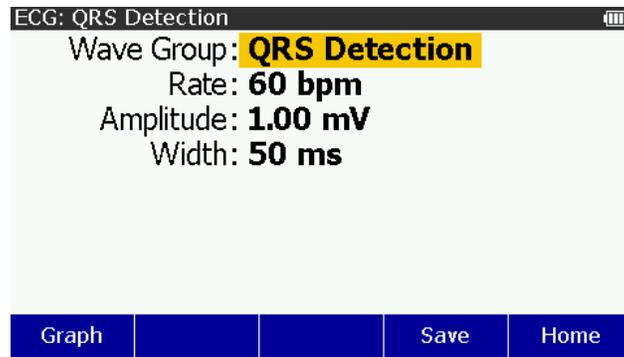

Figure 10. QRS Detection Screen
5. Push **ENTER** to show the **ECG: Performance** screen in Figure 10 in the display.
5. Push **ENTER** to show the **ECG: QRS Detection** screen in Figure 10 in the display.